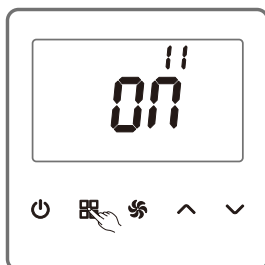

Figure 17
As shown in the Figure 17, on the parameter setting page, press  (MODE) to switch the option number to 11.  (UP) or  (DOWN) is provided to allow a switch between ON and OFF.